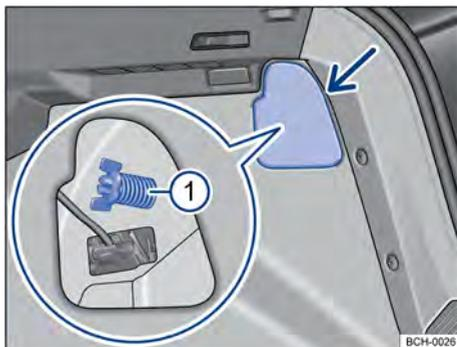
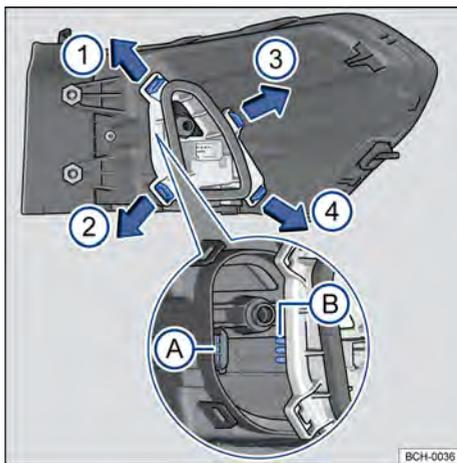

Fig. 176 In the luggage compartment remove the cover and remove the wingbolt ⓘ (magnifying glass)
Fig. 177 Tail light: remove the bulb support ▶
- ① Observe and follow the instructions on the checklist → page 214.
- ② Open the boot lid.
- ③ To open the light cover, rotate the retainer → Fig. 176 (arrow).
- ④ Open the cover sideways together with the retainer.
- ⑤ Release the butterfly bolt ① (magnifying glass) and remove it while holding the tail light at the same time.
- ⑥ Carefully pull the tail light out to remove it from the bodywork → ①.
- ⑦ Disconnect the light bulb connector to completely remove the bulb.
- ⑧ Place the rear light in a smooth and even surface.
- ⑨ To unlock the bulb holder, press each locking pawl in the direction indicated by the arrows → Fig. 177.
- ⑩ Carefully remove the bulb holder.
- ⑪ To remove the burned out bulbs press the bulb against its holder and rotate counter-clockwise.
- ⑫ Replace the defective bulb with a new bulb of the same type.
- ⑬ Insert new bulbs into the respective bulb housing. Press the bulb and turn clockwise until reaching the stop.
- ⑭ Ensure that the bulbs are properly secured in the bulb holder.
- ⑮ Install the bulb support in the tail light, minding the housing contact blade fitting → Fig. 177 A and B. The locking pawls must audibly fit into place in the following sequence: → Fig. 177 ①, ②, ③ and ④.
- ⑯ Fit the bulb connector.
- ⑰ Carefully fit the rear light in the bodywork housing.
- ⑱ Hold the tail light in the installation position with one hand and install the butterfly bolt with the other hand → Fig. 176 ①.
- ⑲ Reposition the cover of the lamp in its position and rotate the lock to close.
- ⑳ Close the boot lid → page 65.